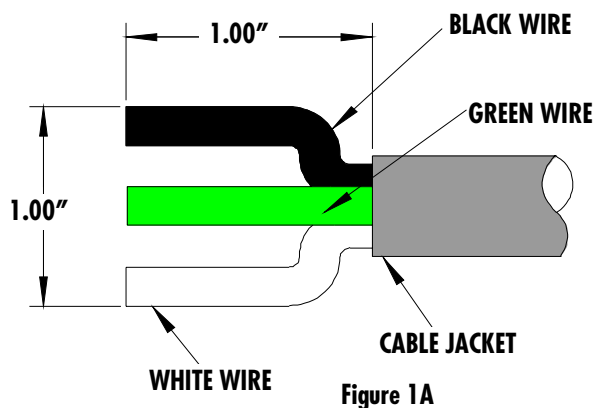
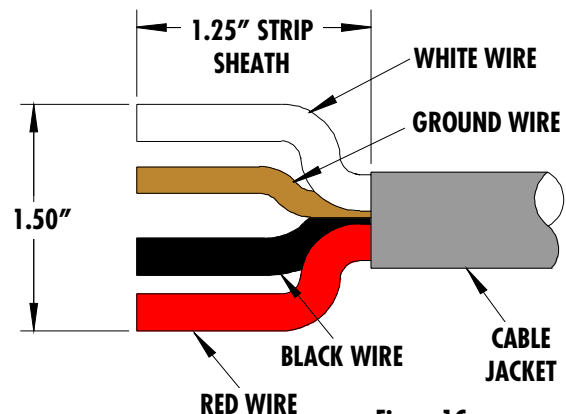
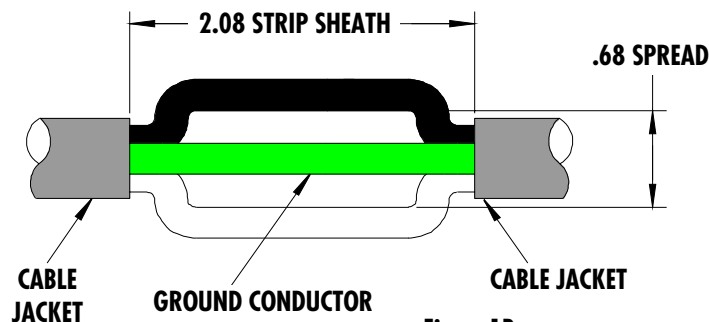

Figure 1A
Figure 1C
Figure 1B
1. Strip cable jacket and pre-form the wires as shown in Figure 1A. For tap connector cable prep, see Figure 1B. For 3 circuit version on cable prep, see Figure 1C.